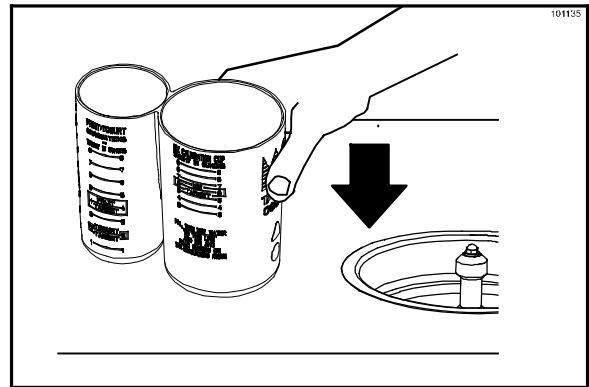

Figure 135
- Tap the cylinder a couple of times so the ice will settle. Do not push the ice down into the cylinder. (See Figure 135.)